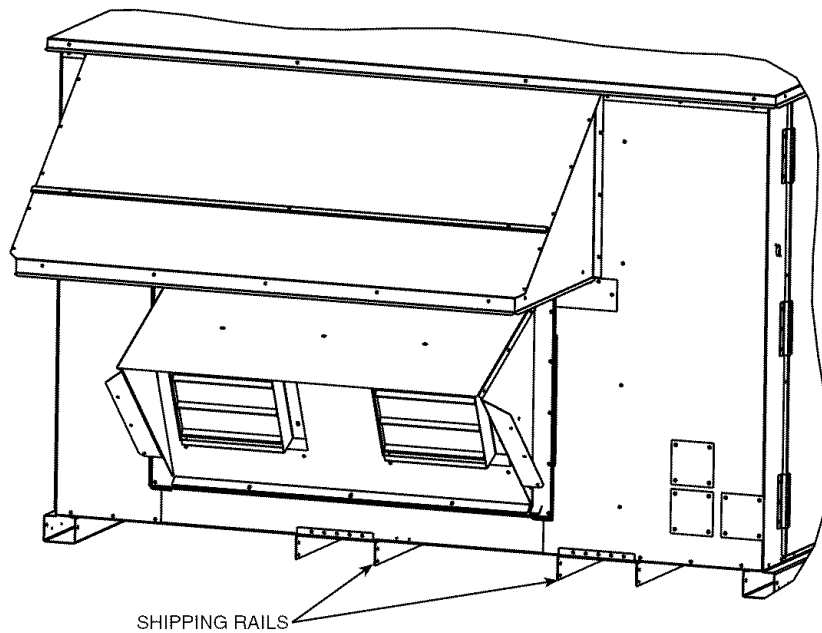

Fig. 2 — Shipping Rail Removal
Step 2 — Remove Shipping Rails — Remove shipping rails prior to lowering unit onto roof curb. See Fig. 2. The rails are attached to the unit at both the return end and condenser end. Remove the screws from both ends of each rail. Be careful not to drop the rails onto any surface that could be damaged. Discard the rails. It is important to replace the screws into the unit to avoid any air or water leakage.